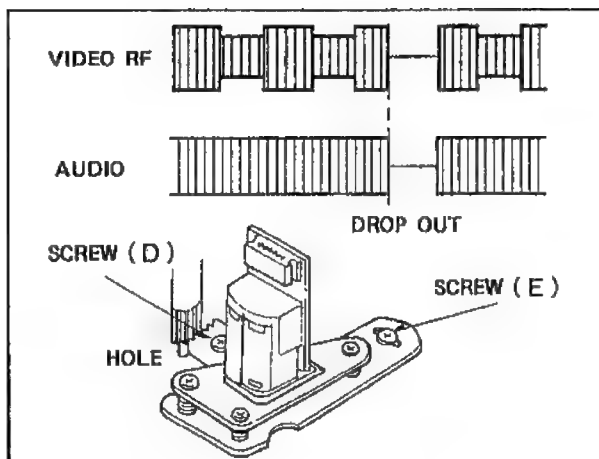

Fig.M24
4. Loosen the 2 screws (D)(E).
5. Adjust the A/C Head Base (F) so that the phase of audio drop-out and RF video drop-out becomes the same as possible. Fig.M24.
7. Adjust the A/C Head Base (F) until the video RF signal is maximized.
8. Carefully tighten screw (D) with hold the A/C Head Base position with the Fine Adjustment Gear Driver then tighten screw (E).